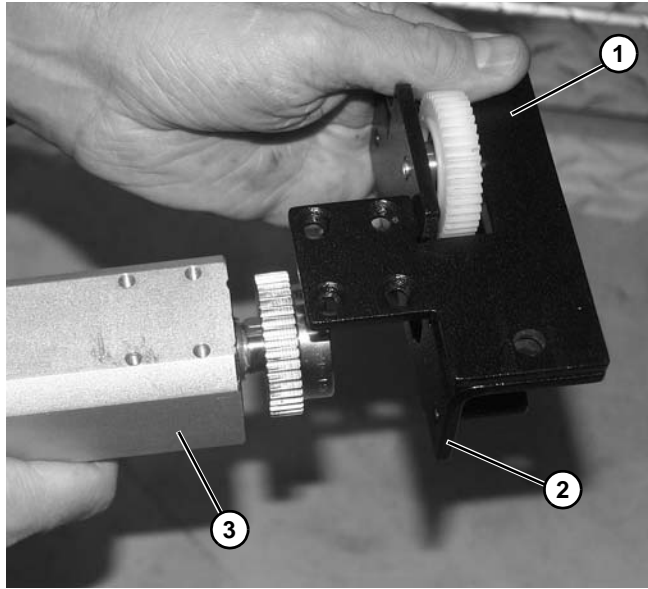

**Figure 67**
6. Remove four screws (**Figure 67, item 1**) and remove motor mounting bracket (**Figure 67, item 2**) from motor (**Figure 67, item 3**).